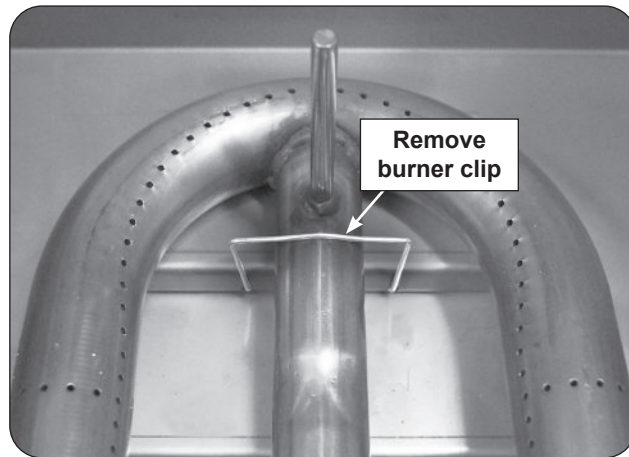

Fig. 41-1 Main burner removal
2. Locate the burner clip (located over the rear center tube of the burner) and slightly pinch and remove the clip from the burner support. See Fig. 41-1.